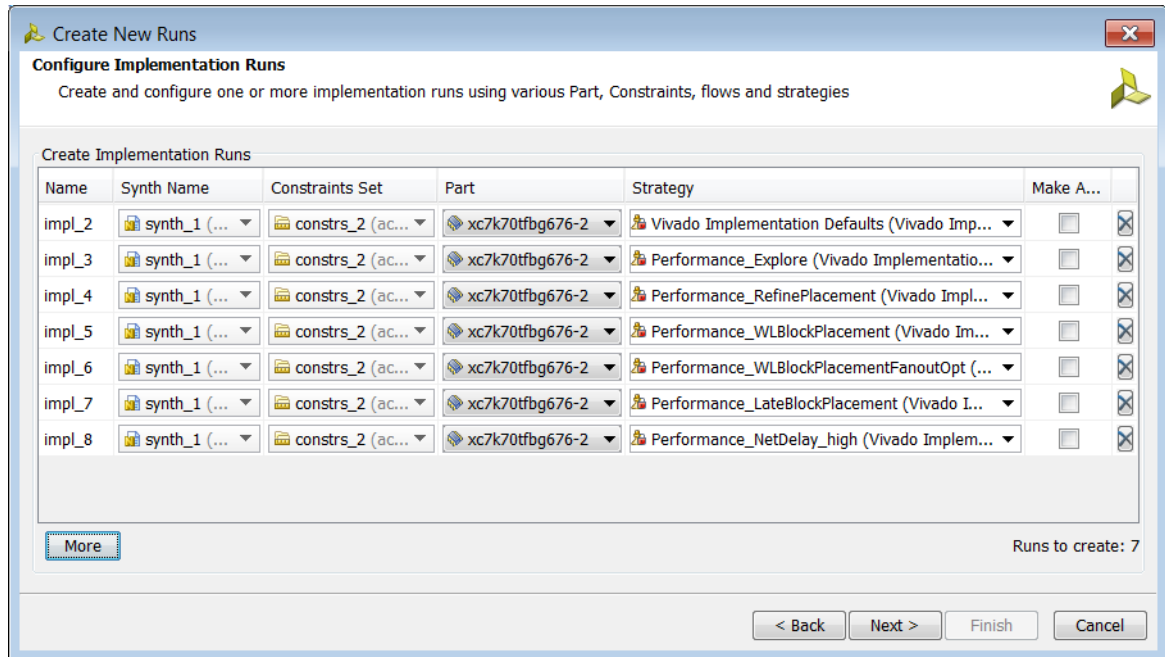

Figure 3-8: Creating Multiple Synthesis and Implementation Runs
3. In the Create New Runs wizard (Figure 3-8, page 41), select the constraint set and target part.